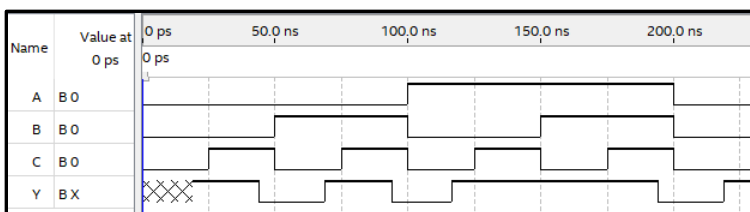

Figure 11: Output of Timing Simulation
- Zoom in on the window. You should see something similar to Figure 11.